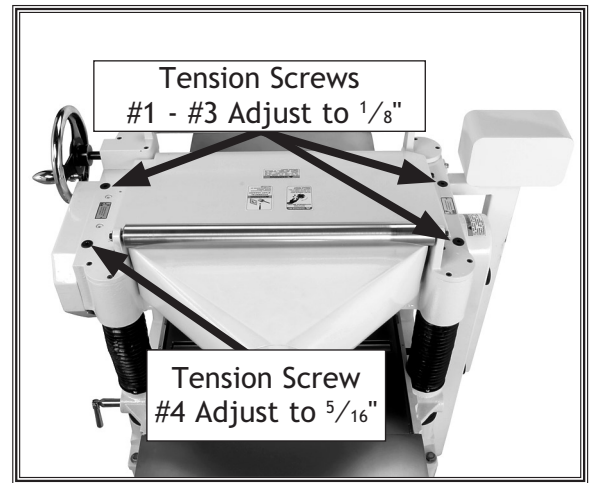

Figure 31. Tension screw locations and adjustments.
1. Locate the four tension screws located on the top of the planer, as shown in **Figure 31**.